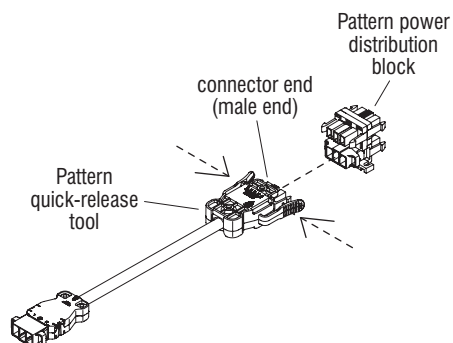

Figure 4
2. The two Pattern quick-release tool tabs will align at the bottom of the connector end prongs. Squeeze the two Pattern quick release tool tabs together, then pull the connector end out of the distribution block. Remove the quick-release tool from the connector end (Figure 4 & Details C & D).